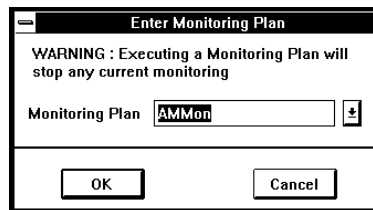

Figure 7-1: : Enter Monitoring Plan Dialog Box
1. Click on **File** on the main Menu Bar to open the **File Menu** and then select **Open...** to open the **Enter Monitoring Plan** dialog box (Figure 7-1).